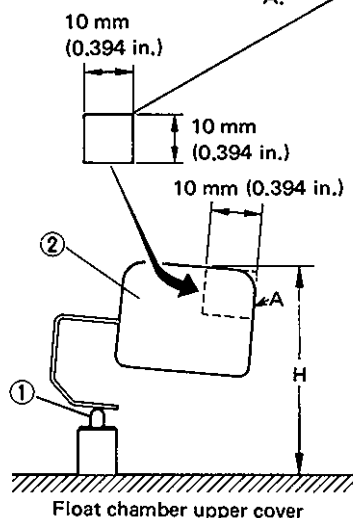

Fig. 4-10
- 4) As shown in Fig. 4-10, with the weight of float ② itself applied to needle valve ①, measure the float height "H".
For the actual method of measurement, refer to Fig. 4-10. Given in it is one of the easy and accurate methods.